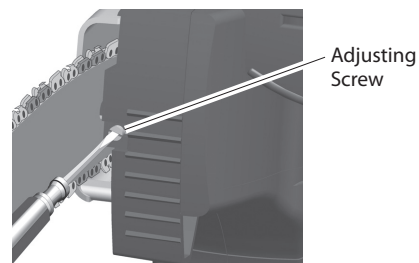

Figure 10 - Turning Adjusting Screw
2. Turn adjusting screw on front of power head clockwise until slack is out of chain (see Figure 10).